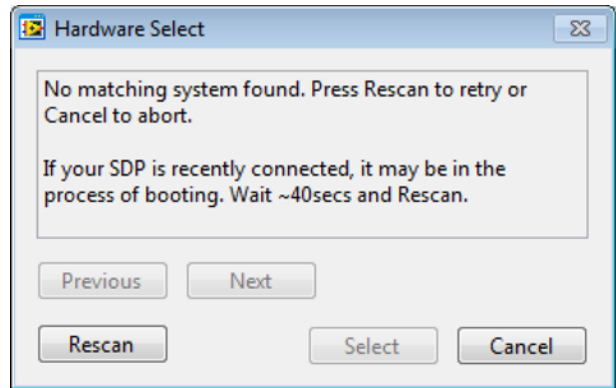

Figure 15. Connectivity Error Alert
2. If the evaluation system is not connected to the USB port when the software is launched, a connectivity error displays (see Figure 15). Connect the evaluation board to the USB port of the PC, wait a few seconds, click **Rescan**, and follow the instructions on the screen.